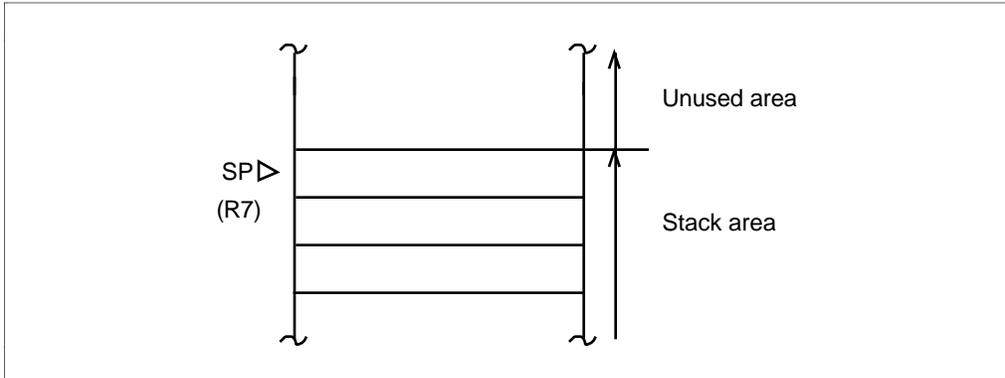

Figure 3-2 Stack Pointer
R7 also functions as the stack pointer, used implicitly by hardware in processing interrupts and subroutine calls. In assembly-language coding, R7 can also be denoted by the letters SP. As indicated in figure 3-2, R7 (SP) points to the top of the stack.